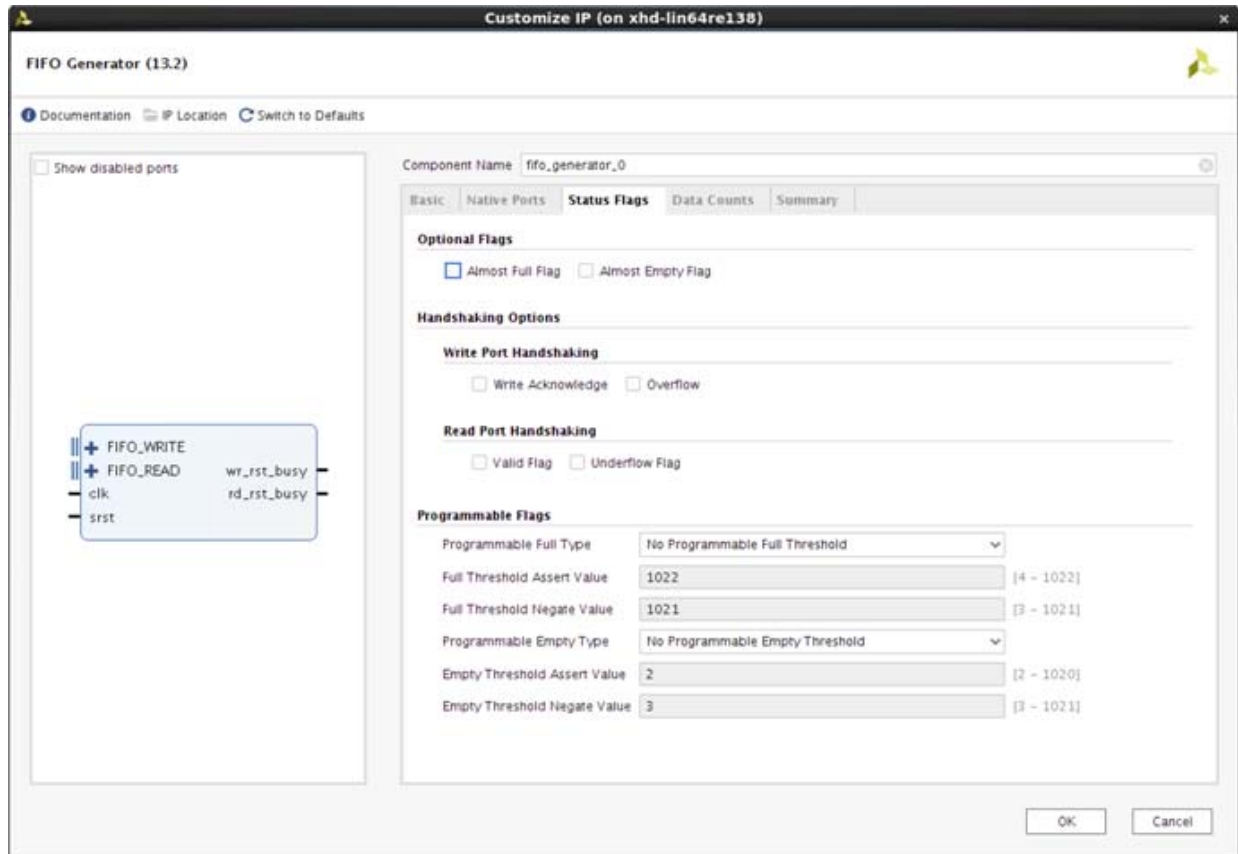

Figure 4-3: Status Flags Tab
- Common Clock (clk), Block RAM: See Common Clock FIFO: Block RAM and Distributed RAM in Chapter 3 for details. This implementation optionally supports first-word-fall-through (selectable in the Status Flags tab, Figure 4-3).
- Common Clock (clk), Distributed RAM: For details, see Common Clock FIFO: Block RAM and Distributed RAM in Chapter 3. This implementation optionally supports first-word-fall-through (selectable in the Status Flags tab, Figure 4-3).
- Common Clock (clk), Built-in FIFO: For details, see Common Clock: Built-in FIFO in Chapter 3. This implementation optionally supports first-word fall-through (selectable in the Status Flags tab, Figure 4-3).
- Independent Clocks (rd\_clk, wr\_clk), Block RAM: For details, see Independent Clocks: Block RAM and Distributed RAM in Chapter 3. This implementation optionally supports asymmetric read/write ports and first-word fall-through (selectable in the Status Flags tab, Figure 4-3).
- Independent Clocks (rd\_clk, wr\_clk), Distributed RAM: For more information, see Independent Clocks: Block RAM and Distributed RAM in Chapter 3. This implementation optionally supports first-word fall-through (selectable in the Status Flags tab, Figure 4-3).
- Independent Clocks (rd\_clk, wr\_clk), Built-in FIFO: For more information, see Independent Clocks: Built-in FIFO in Chapter 3. This implementation optionally supports first-word fall-through (selectable in the Status Flags tab, Figure 4-3).